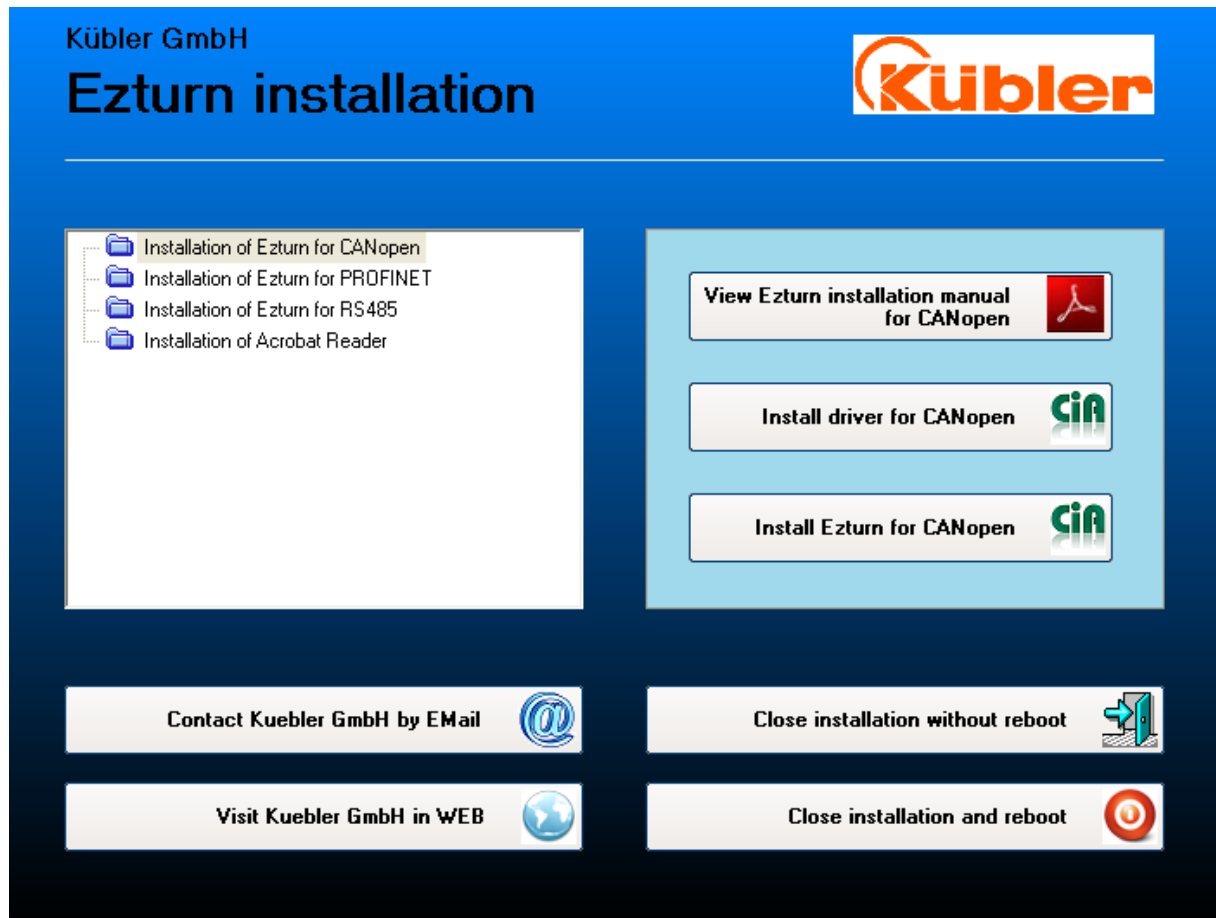
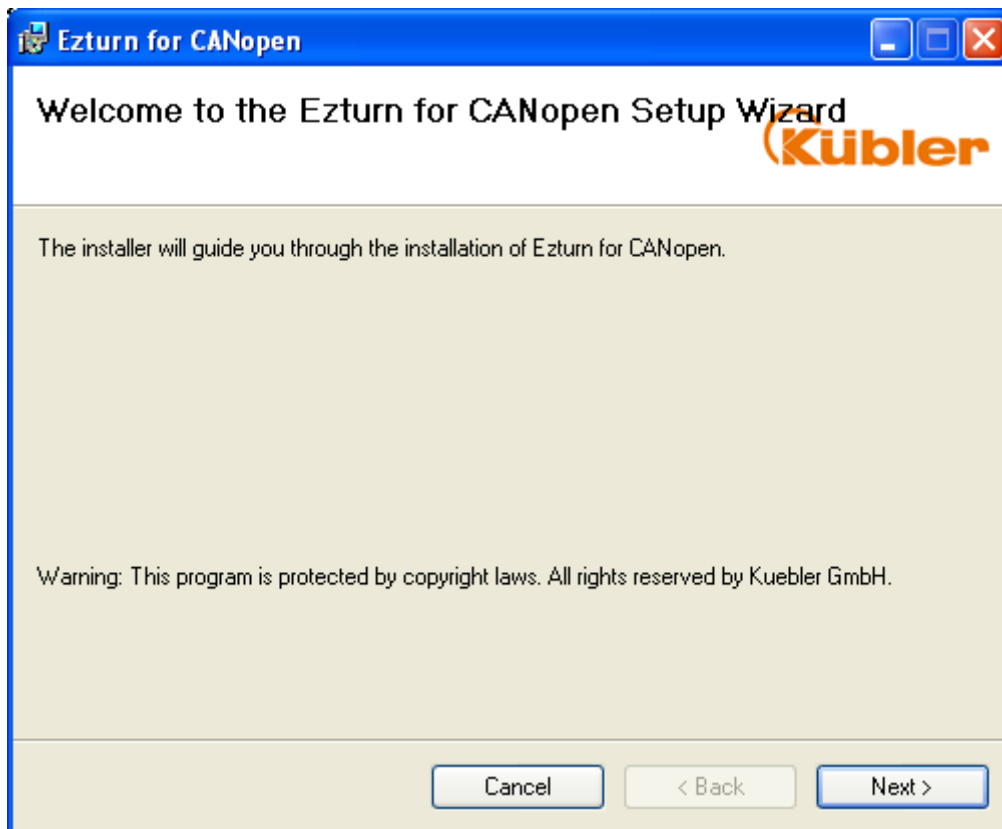

Figure 1
Figure 9
Insert CD into CD drive. The setup starts automatically. If it does not, double click on CDStart.exe. A setup screen appears as depicted in figure 1 below.
- In the left upper window of the setup screen, see figure 1, select the option "Installation of Ezturn for CANopen"
As shown in figure 1 press the button “Install Ezturn for CANopen” to install the Ezturn program. The installation wizard starts as depicted in figure 9 below and guides you through the installation